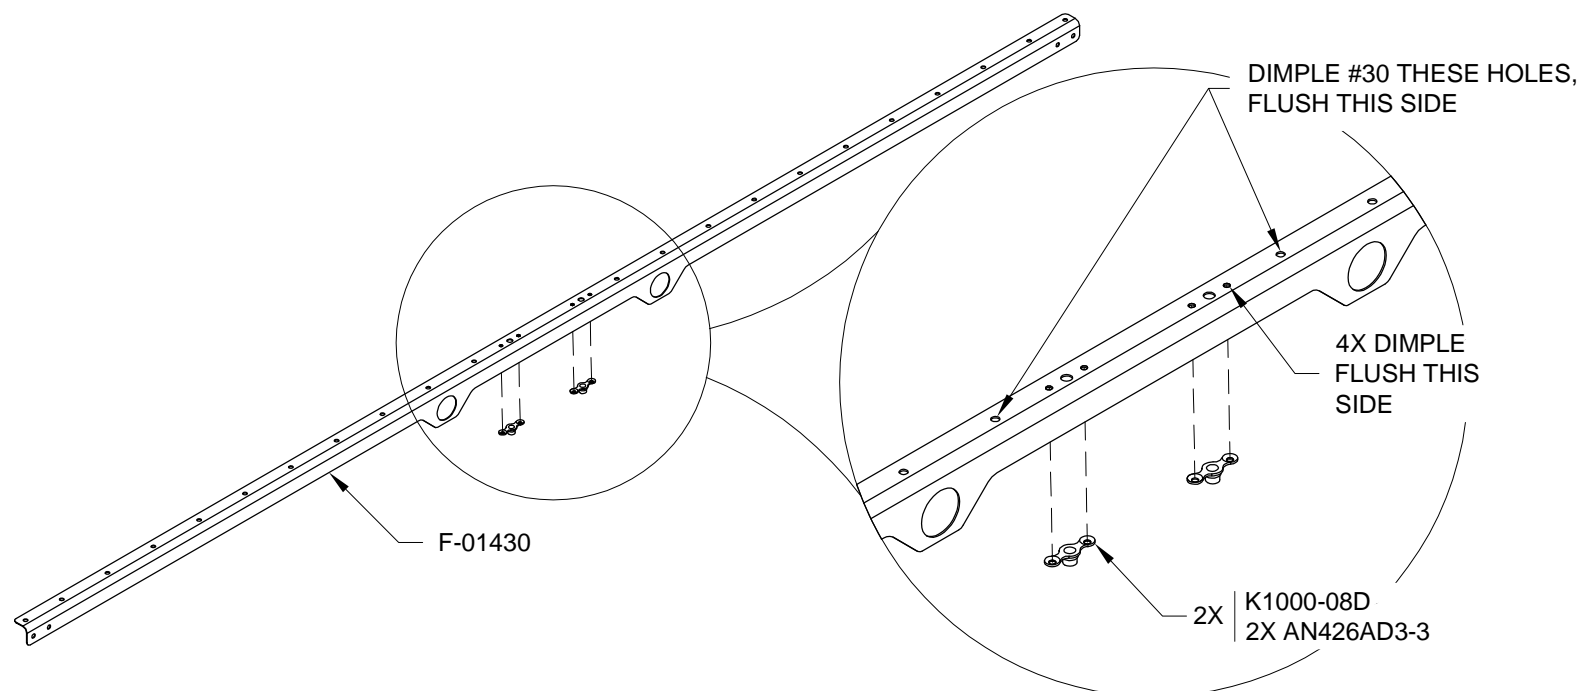

FIGURE 2: RIVET NUTPLATES TO THE FLOOR STIFFENER
Step 4: Rivet the nutplates to the F-01430 Baggage Floor Stiffener as shown in Figure 2.